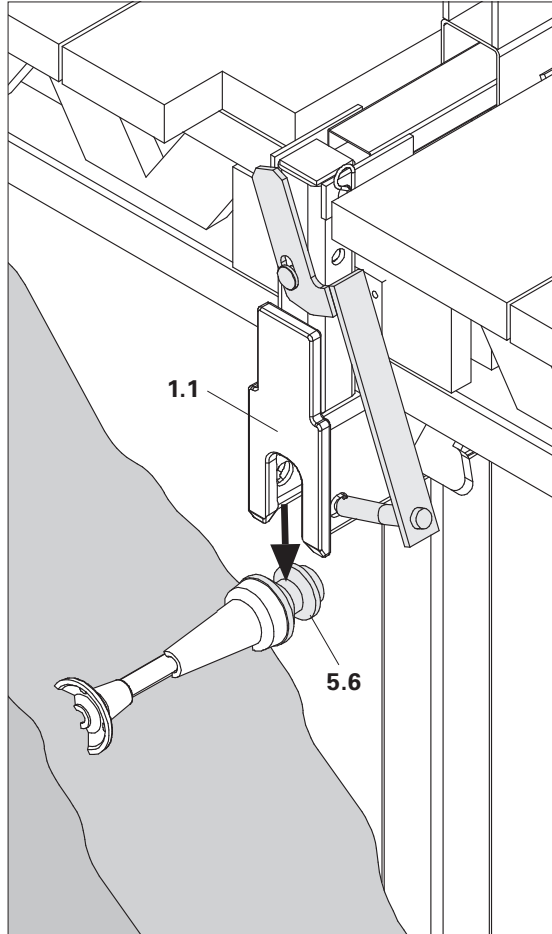

Fig. B1.22
3. Raise platform and pivot over the scaffold mounting rings. (Fig. B1.22)